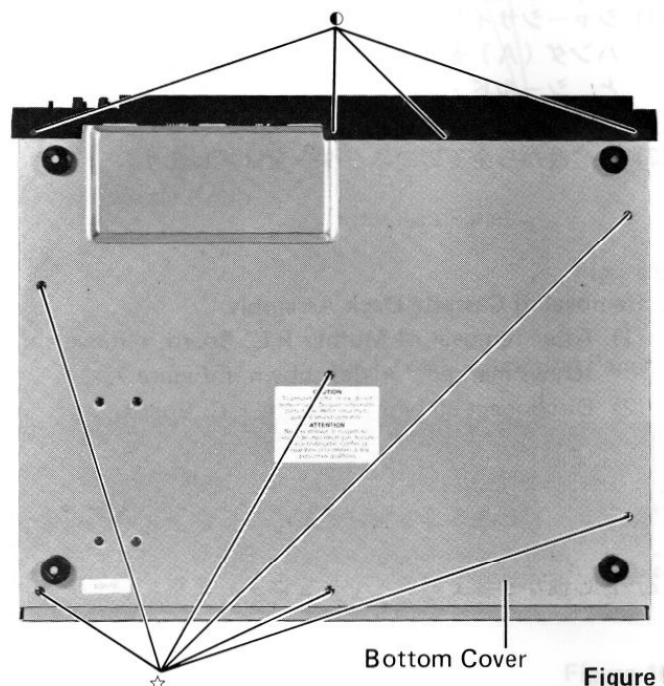

Figure 5
- (1) After removal of front panel, remove six screws marked "☆" as shown in Figure 5.
- (2) Remove the bottom cover.